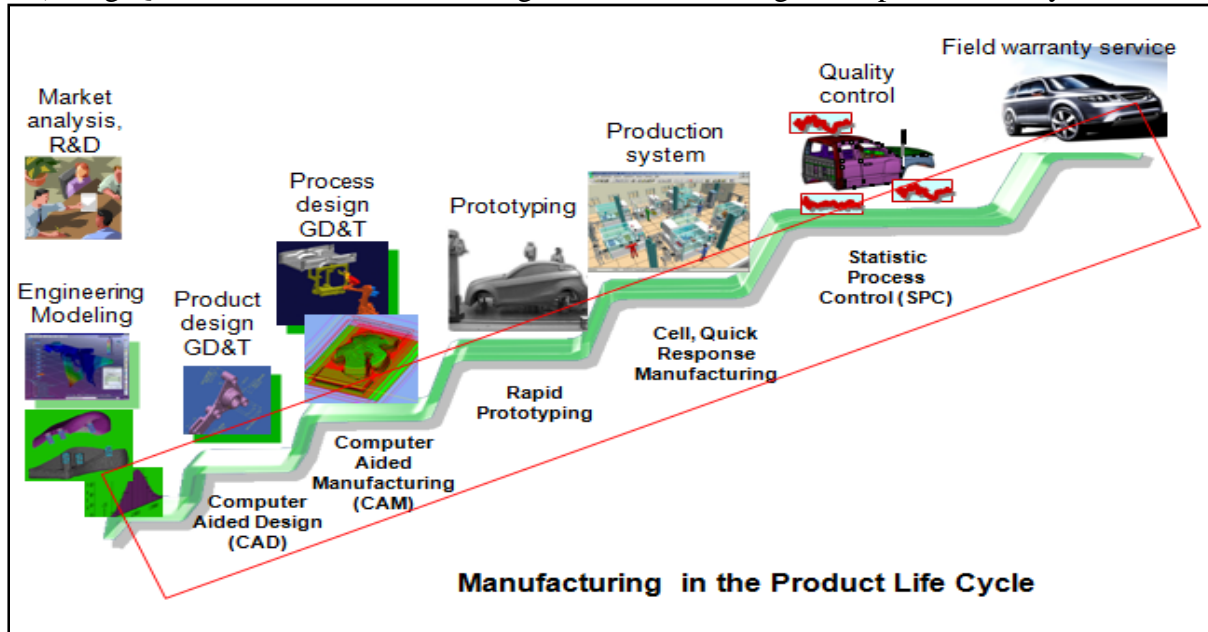

Fig Q3a: Stages of manufacturing in the product life cycle
a) Fig Q3a below shows different stages of manufacturing in the product life cycle.